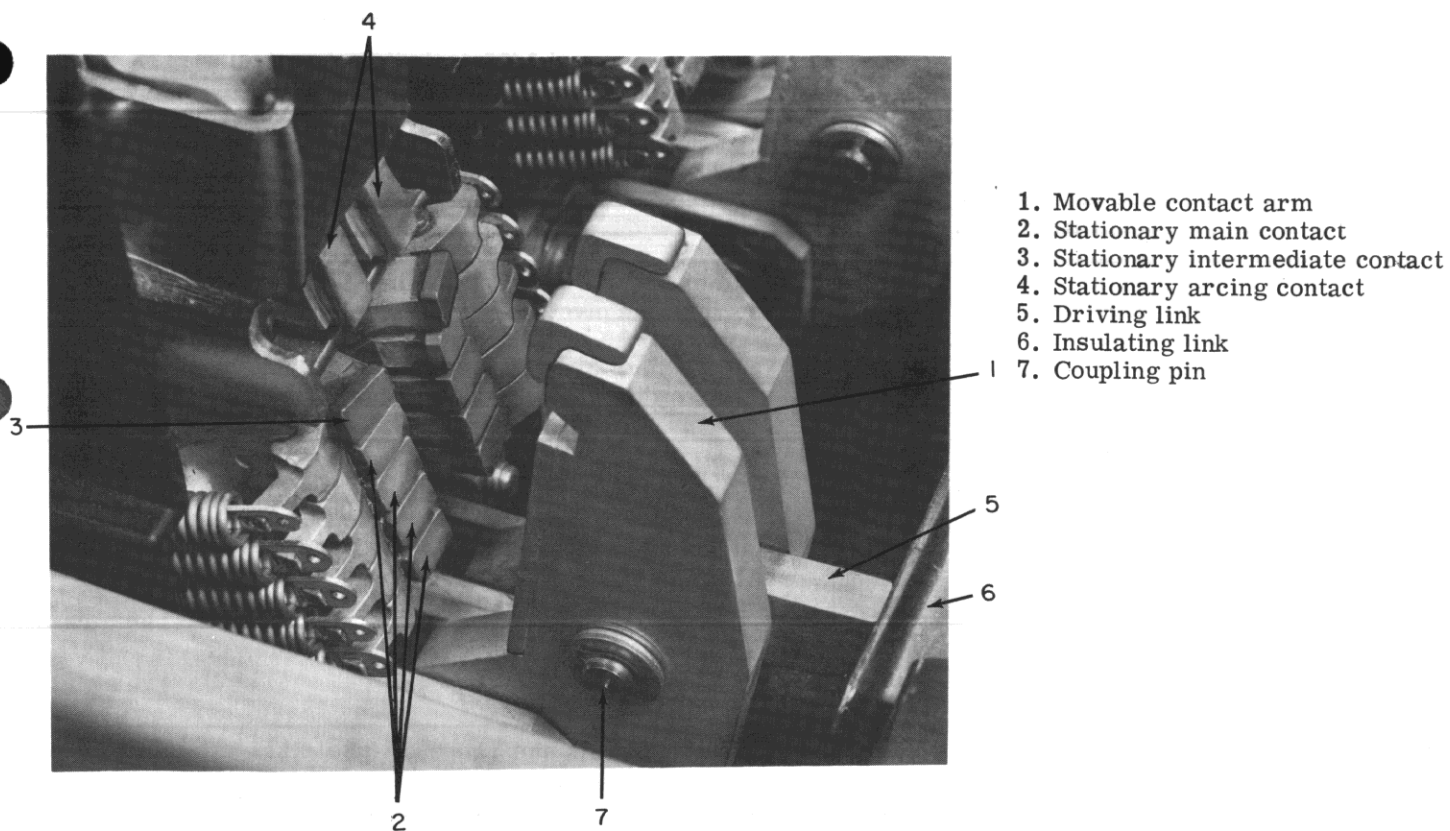

Fig. 8. AKRT-50 contact structure
- Stationary main contacts increased from 6 to 8; otherwise the stationary contacts are identical to the AKR-50. See Figs. 8 and 9.
The contact structure of this 2000A breaker is conceptually identical to the 1600A AKR-50 except that it employs eight stationary main contacts instead of six. Constructionally, however, the upper stud assembly, movable contact arms and pivot block are unique to the AKRT-50. See Figs. 8 and 9.